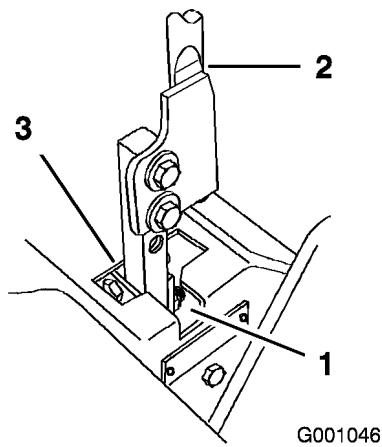

Figure 57
- Move the lever to the neutral position but not locked (Figure 57).
6. Pull the lever back until the clevis pin (on arm below pivot shaft) contacts the end of the slot (just beginning to put pressure on the spring) (Figure 57).
7. Check where the control lever is relative to notch in console (Figure 57). It should be centered allowing lever to pivot outward to the neutral lock position.